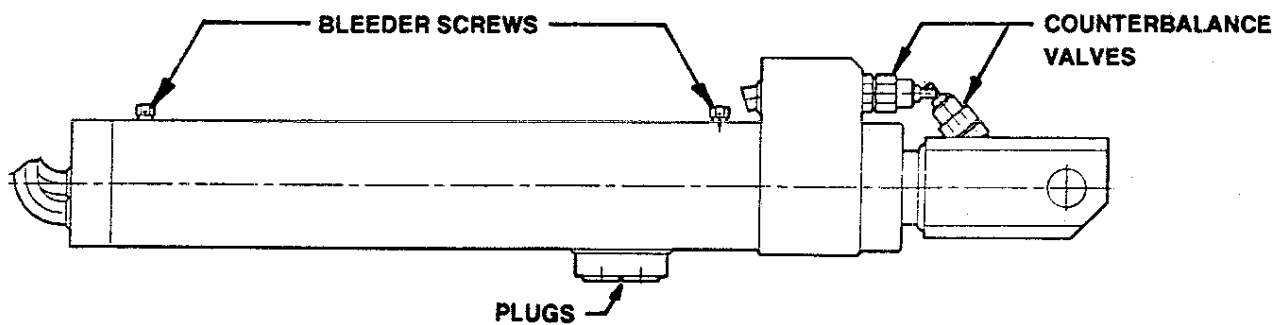

Figure G-6. BLEEDER SCREWS
7. Open the bleeder screws to relieve hydraulic pressure on extend and retract sides of cylinder. Remove rod end counterbalance valve. Unscrew slowly to allow buildup hydraulic pressure, if any, to bleed off. See Figure G-6.